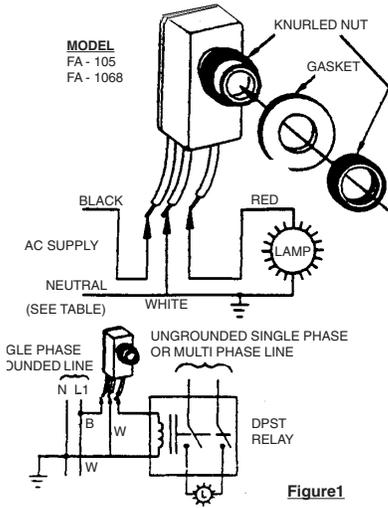

Figure 1
3. Wire control as indicated in Figure 1. Installation must be in compliance with NFPA National Electrical Code which requires both sides of an ungrounded single phase or multi-phase line be broken (article 410-48) for lighting loads.